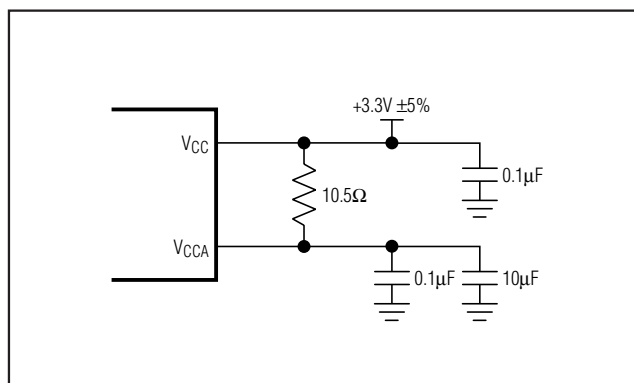

Figure 2. Analog Supply Filtering
**Note 1:** A series resistor of up to  $10.5\Omega$  is allowed between  $V_{CC}$  and  $V_{CCA}$  for filtering supply noise when system power-supply tolerance is  $V_{CC} = 3.3V \pm 5\%$ . See Figure 2.
The MAX3679 is a mixed analog/digital IC. The PLL contains analog circuitry susceptible to random noise. In addition to excellent on-chip power-supply noise rejection, the MAX3679 provides a separate power-supply pin,  $V_{CCA}$ , for the VCO circuitry. Figure 2 illustrates the recommended power-supply filter network for  $V_{CCA}$ . The purpose of this design technique is to ensure clean input power supply to the VCO circuitry and to improve the overall immunity to power-supply noise. This network requires that the power supply is  $+3.3V \pm 5\%$ . Decoupling capacitors should be used on all other supply pins for best performance.